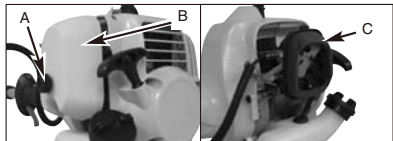

Fig. 16
1. Remove knob (A) holding air filter cover in place, remove cover (B) and lift filter (C) from air box (Fig. 16).